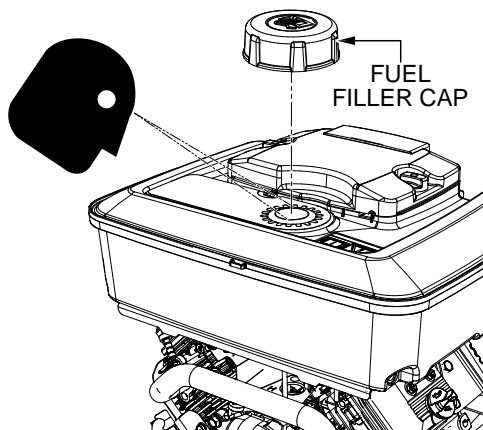

Figure 8. Fuel Inspection
1. Remove the fuel filler cap (Figure 8) located on top of the fuel tank.